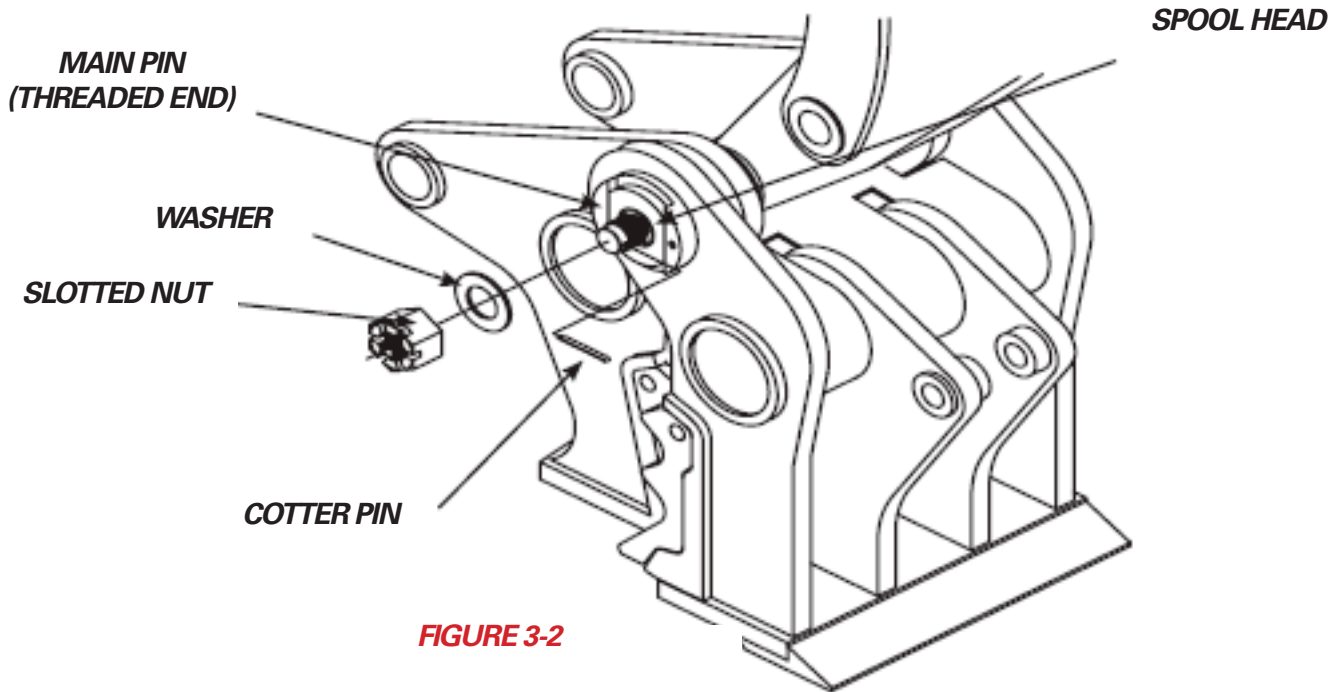

FIGURE 3-2
4. Install the washer and slotted nut on the threaded end of the main pin. Turn the slotted nut until it is snug against the washer and the spool head. Tighten the nut further until the next available slot line up with the hole in the main pin. Install the cotter pin (see figure 3-2).